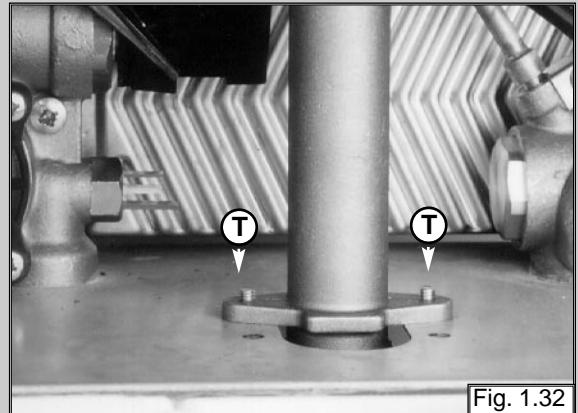

Fig. 1.32
4. Remove the screws "T" from the bottom of the gas valve pipe (see fig. 1.32).